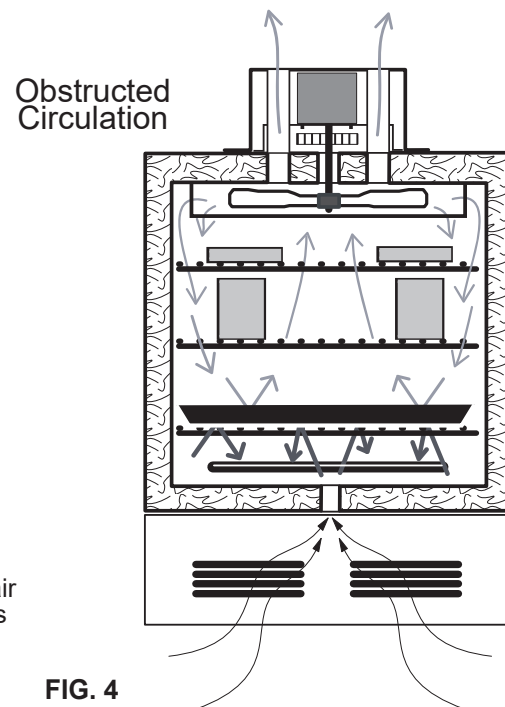

FIG. 4
- Avoid using large solid trays or foil on lower shelves, this can drastically limit heat to shelves and articles placed above as shown in FIG. 4.